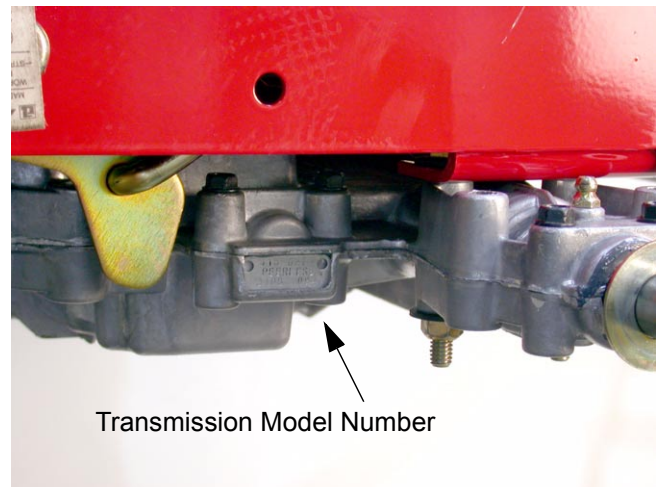

Figure 57
**NOTE:** Contact Tecumseh-Peerless for transmission service information during the warranty period. Model number information is located on the right side of the transmission. See Figure 57.